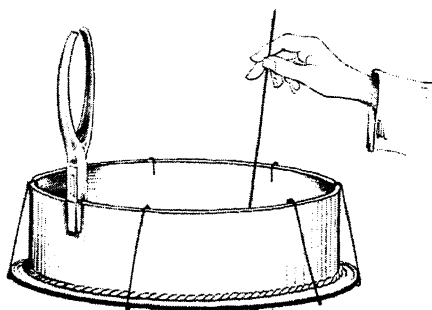

FIG. 2
4. Apply the heat again. Shortly after the boiling of the flux the joint should be touched quickly with the wire solder, as shown in Fig. 2. Small pieces of solder may be placed along the joint, as shown in Fig. 3.